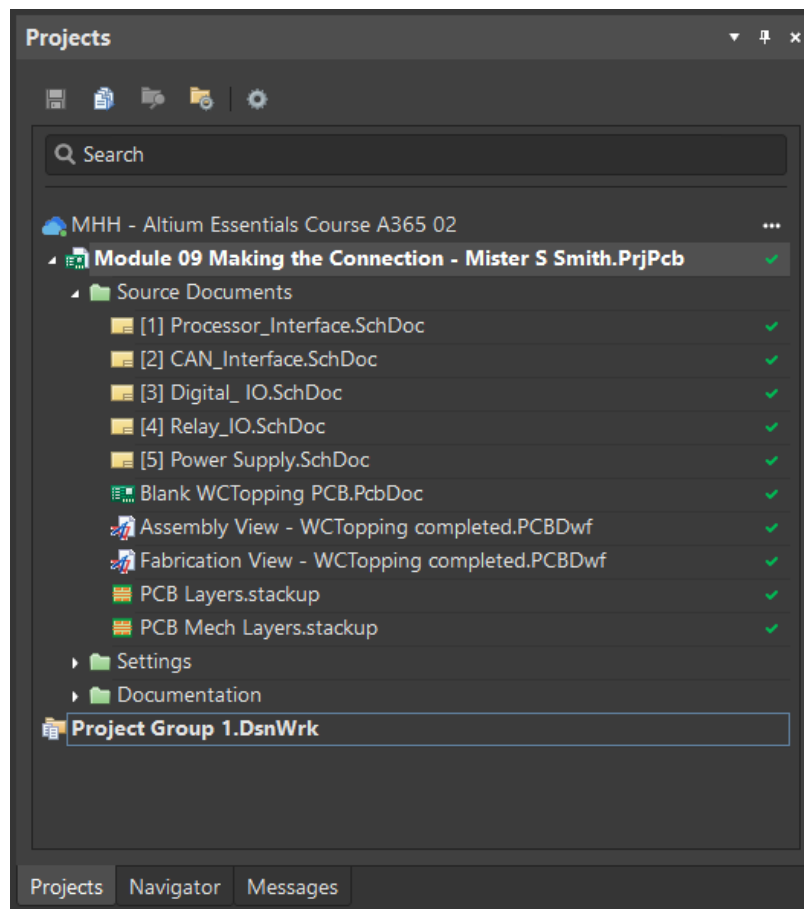

Figure 6. New Project based on the Predefined Training Project
14. As a result of the Copy/Clone process, you will now see a new project in your Project panel, similar to Figure 6.